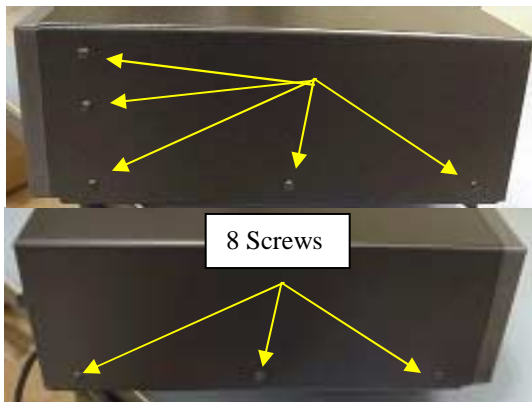

Figure 1
1. Remove the 8 cover screws from GBH/GBV chassis. Set aside wrap and screws. (Fig. 1)